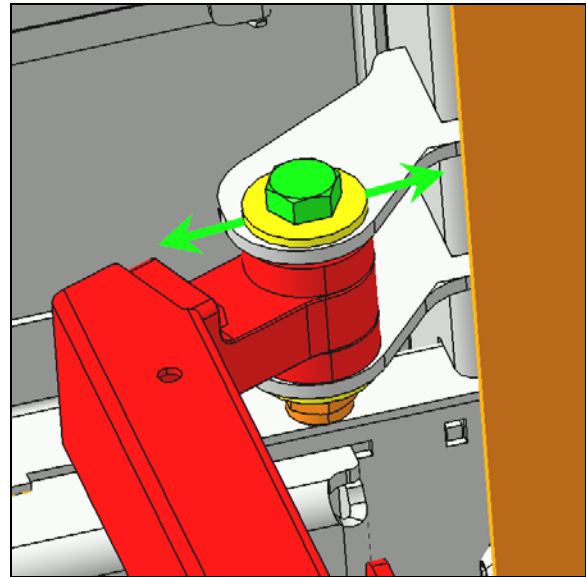

FIGURE 56
8. If the longitudinal position is out of tolerance, adjust using the adjustment provided on the lower attachment point of the arm on the vehicle chassis (FIGURE 56).